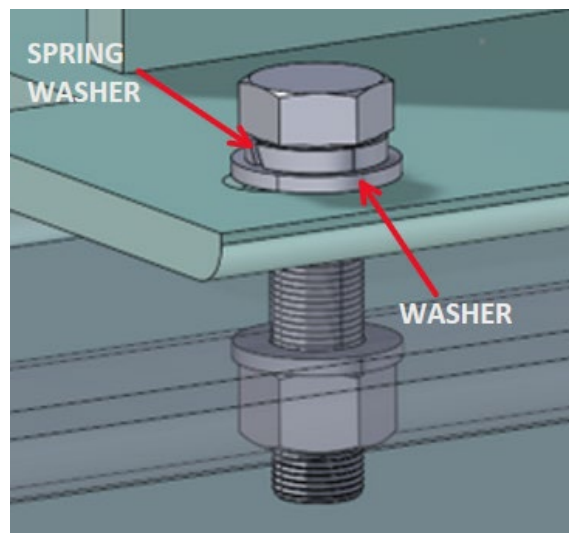

Figure 10: Bolting Configuration
2. Secure the Load Cell Bracket Mounts to the conveyor channel using M20x65 bolts, flat washers, spring washer, and M20 hex nut. See Figures 10 to 12 for reference.